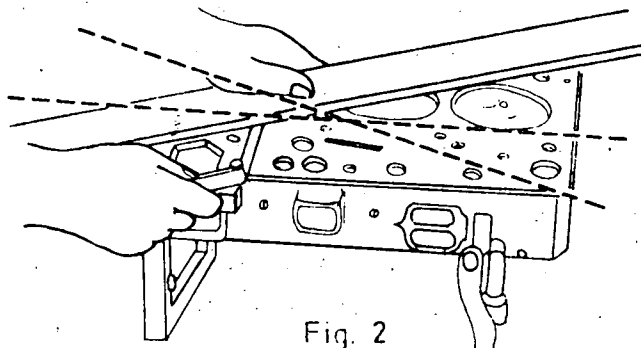

Fig. 2
- a) Check the flatness of the cylinder head, in three directions, with a rule and a thickness gauge (fig. 2).